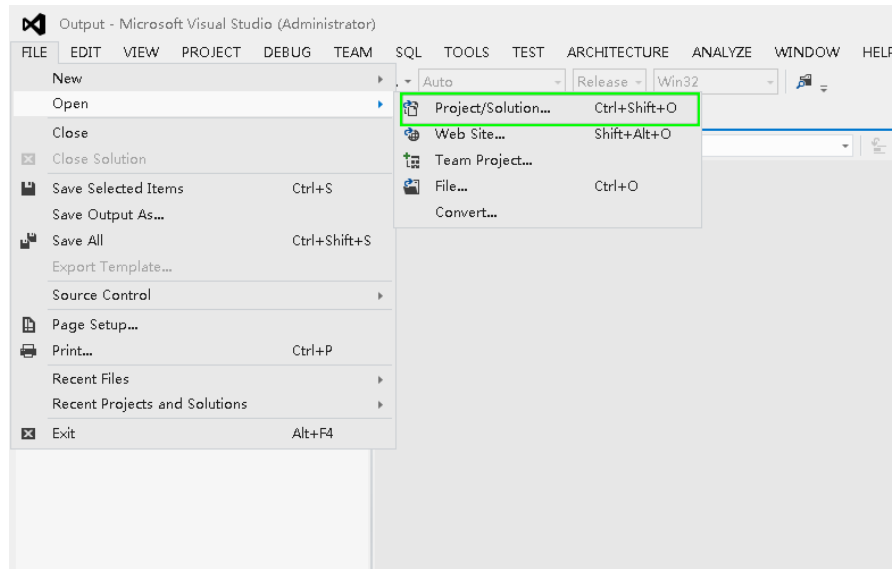

Figure 3-12 Menu of Visual Studio 2012
4. Click "File → Open → Project/Solution", as shown in **Figure 3-12**.